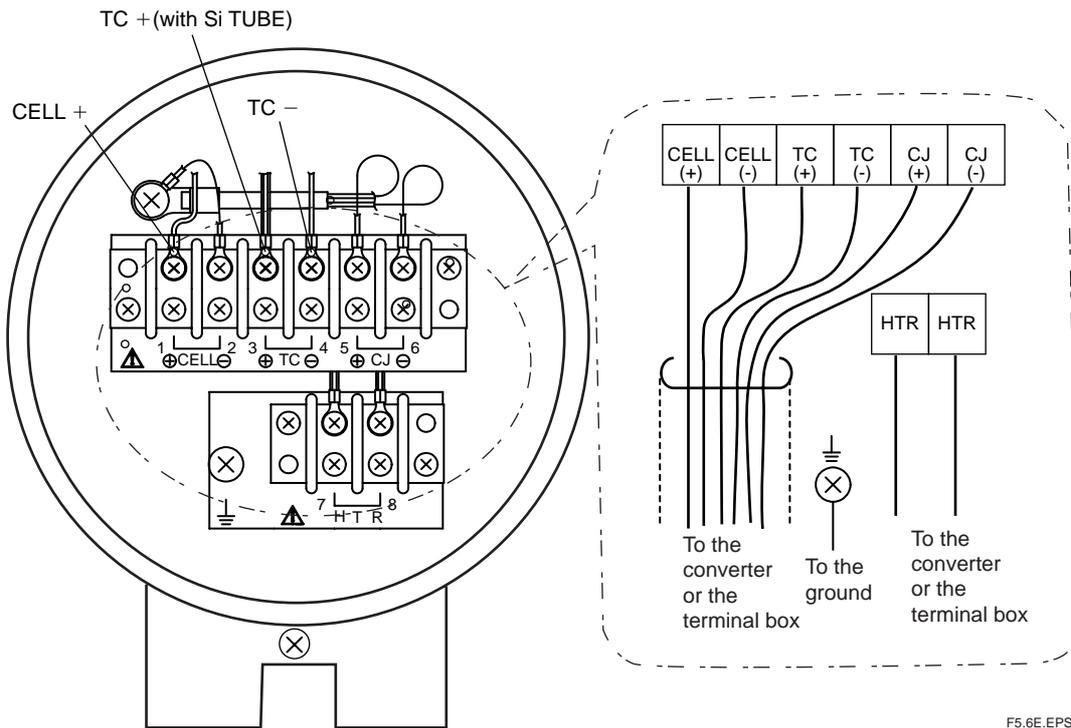

Figure 5.6 Detector terminals
- (2) If the ambient temperature at the location of wire installation is 80 to 150° C, be sure to use a flexible metallic wire conduit. If a non-shielded “600V silicon rubber insulated glass braided wire” is used, keep the wire away from noise sources to avoid noise interference.
- (3) Figure 5.6 shows the layout of the detector terminals.